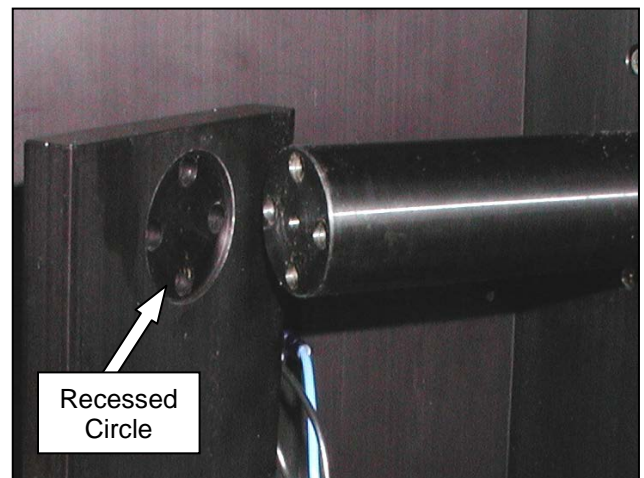

Figure 3-44. Mandrel Support Plate alignment
11. Hand tighten the four top screws, ensuring that the end of the Material Roll Mandrel is sitting inside the recessed circle of the Mandrel Support Plate (Figure 3-44).